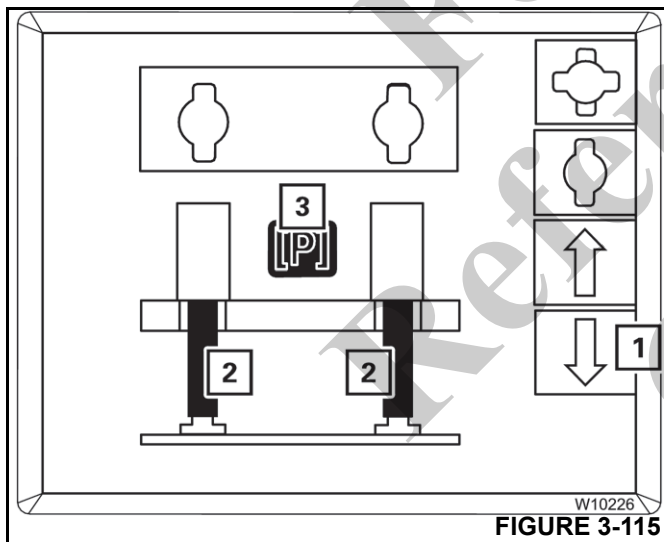

FIGURE 3-115
1. Press the F8 button (1, Figure 3-115).
2. The lifting cylinders (2) extend: